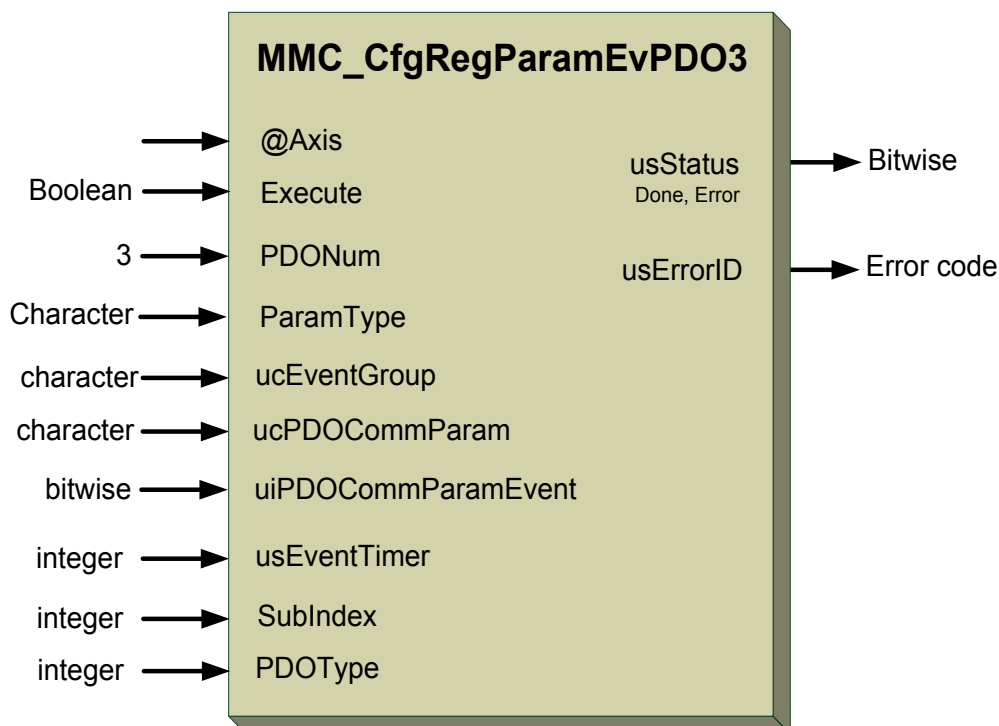

Figure 16-27: MMC\_CfgRegParamEvPDO3 function block
**Figure 16-27** describes the function block for MMC\_CfgRegParamEvPDO3 as applied within the IEC 61131 programming. The IEC function block serves CfgUserParamEvPDO3, CfgUserParamEvPDO4, CfgRegParamEvPDO3, and CfgRegParamEvPDO4 together.